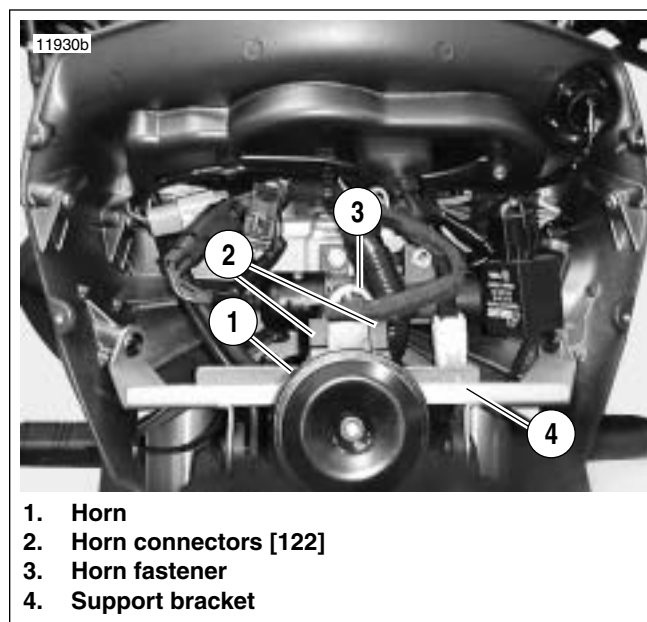

Figure 7-75. Horn Assembly
4. See Figure 7-75. Remove fastener (3).
5. Remove horn (1) from fairing support bracket (4).
6. See Figure 7-75. Detach Y/BK power wire and BK ground wire from terminal clips on horn.
1. See Figure 7-75. Connect Y/BK power wire and BK ground wire to terminal clips on horn.
2. See Figure 7-75. Attach horn (1) to fairing support bracket (4) using fastener (3). Tighten to 36-60 **in-lbs** (4.0-6.7 Nm).
- a. See Figure 7-75. Remove Y/BK power and BK ground wires from terminal clips.